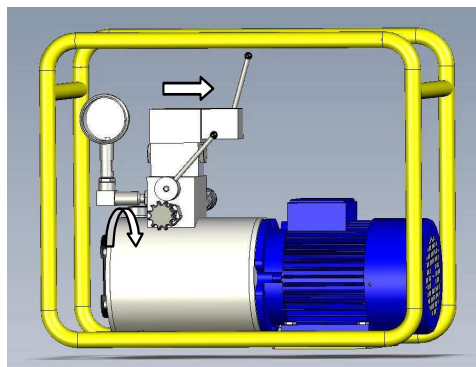

Figure 24
- ① With the help of the butt fusion Table (see the number of the corresponding Annex of the model being used in Chapter 5 - *Technical Characteristics*), identify the fusion parameters: once you know the diameter and thickness of the pipe, locate the pressures to apply in the different phases of the butt fusion cycle (you will have to add the necessary drag pressure to move the pipes) and the appropriate times of each phase as well.
- ② On the step of visual control, where the pipes/fittings were brought nearer together, increase the pressure by turning the knob of the regulating valve clockwise until you achieve the appropriate pressure (initial heating pressure + drag). See *Figure 24*.
- ④ PHASE 1: Put the joystick in the CLOSED position (*Figure 24*). Let the material flow until a bead of certain thickness is formed (consult the Table).